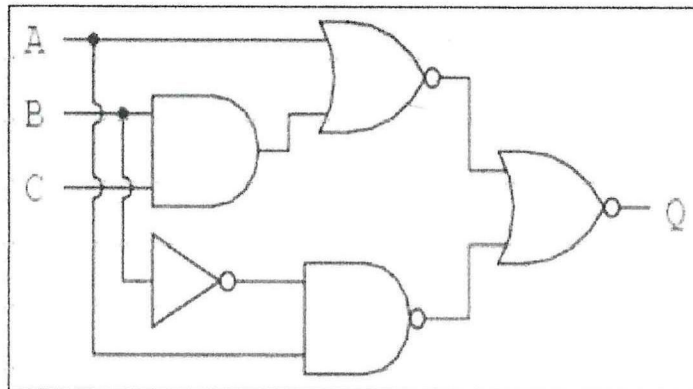

Figure Q3: Logic Circuit
Q3 The logic circuit shows as in **Figure Q3**.
(a) Determine the output (Q) based on **Figure Q3**.
(b) Analyze the output of the logic circuit in **Figure Q3** with a simple expression using Boolean Algebra theory, if each input signal was "A, B, C".